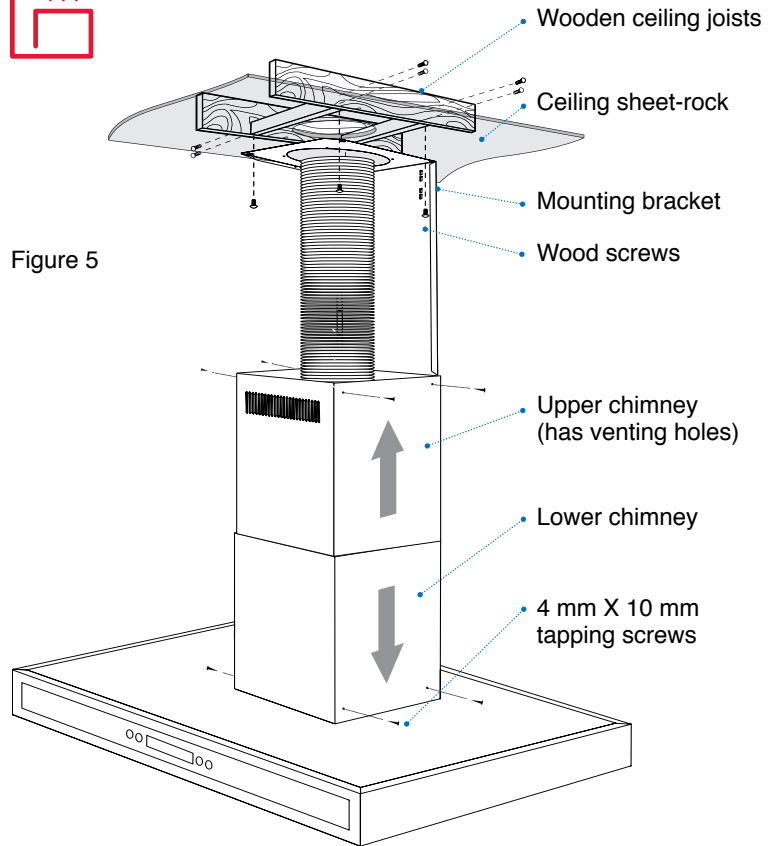

Figure 5
1. Find the perfect place to install the hood. Make sure the ceiling joists provide adequate support for the suspended hood, add support capacity between the joists if necessary to screw the support bracket securely into wood (see Figure 5 or 6 depending on your model).
4. Attach the bracket rods to the upper support plate, adjust the rods to the required length (see page 7) and lock using sixteen (16) Tapping Screws Phillips head 4mm x 8mm as shown in figure 5 or 6 depending on your model.
10. Slide the top and bottom chimney covers on the support bracket as shown in Figure 5 or 6 depending on your model. Use four tapping screws 4 mm x 10 mm to attach the top of the chimney to its hinges. Finally, attach the bottom of the chimney hood using two tapping screws 4 mm X 10 mm.